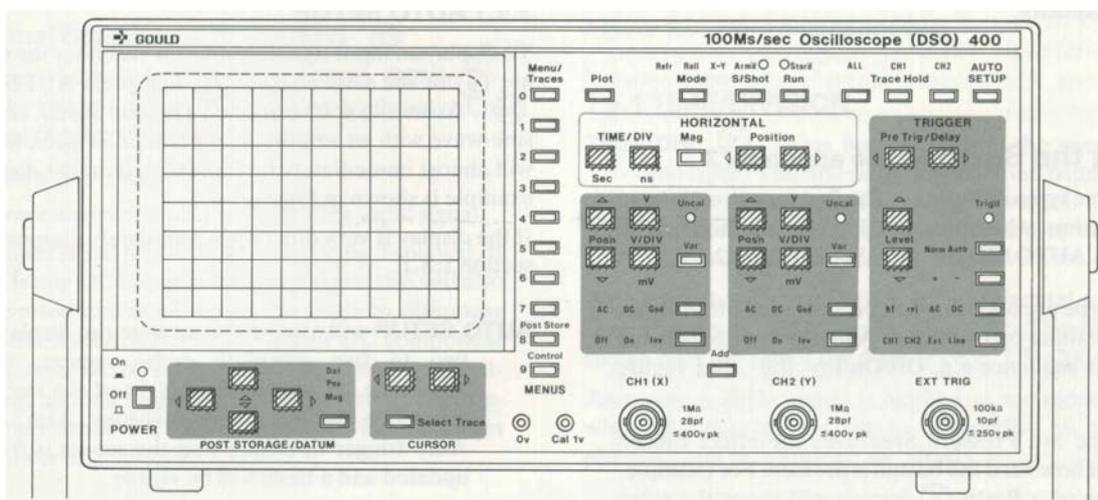

Figure 1.2c The Pressure Sensitive Buttons
The third type are Pressure Sensitive: the effect caused depends upon how hard the button is pressed. For example, a gentle press of a Pos'n (8) button will move the trace slowly. If the button is pressed harder, the trace will move more quickly. See Figure 1.2c.